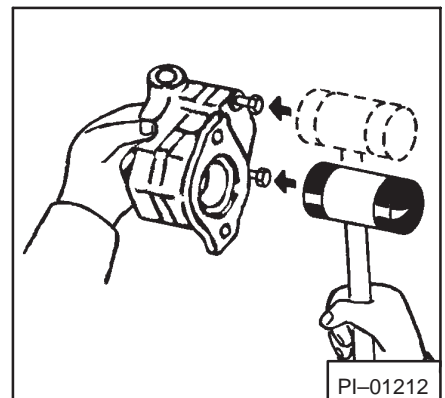

Fig. 29 Separating Pump Plates
5. Replace two screws in the shaft side and turn them in several turns by hand (Fig. 29). Tap sharply on the heads of the two screws, alternating between them (Fig. 29). When the dowels are disengaged, remove the screws and separate the plates.